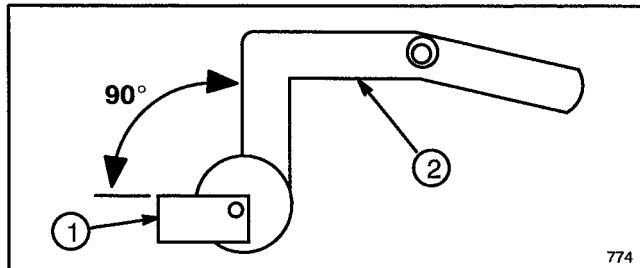

Figure 27
**IMPORTANT:** Idler retainer must be installed at an 80° to 90° angle to the idler mounting bracket (Fig. 27) or rider may creep with clutch pushed down.